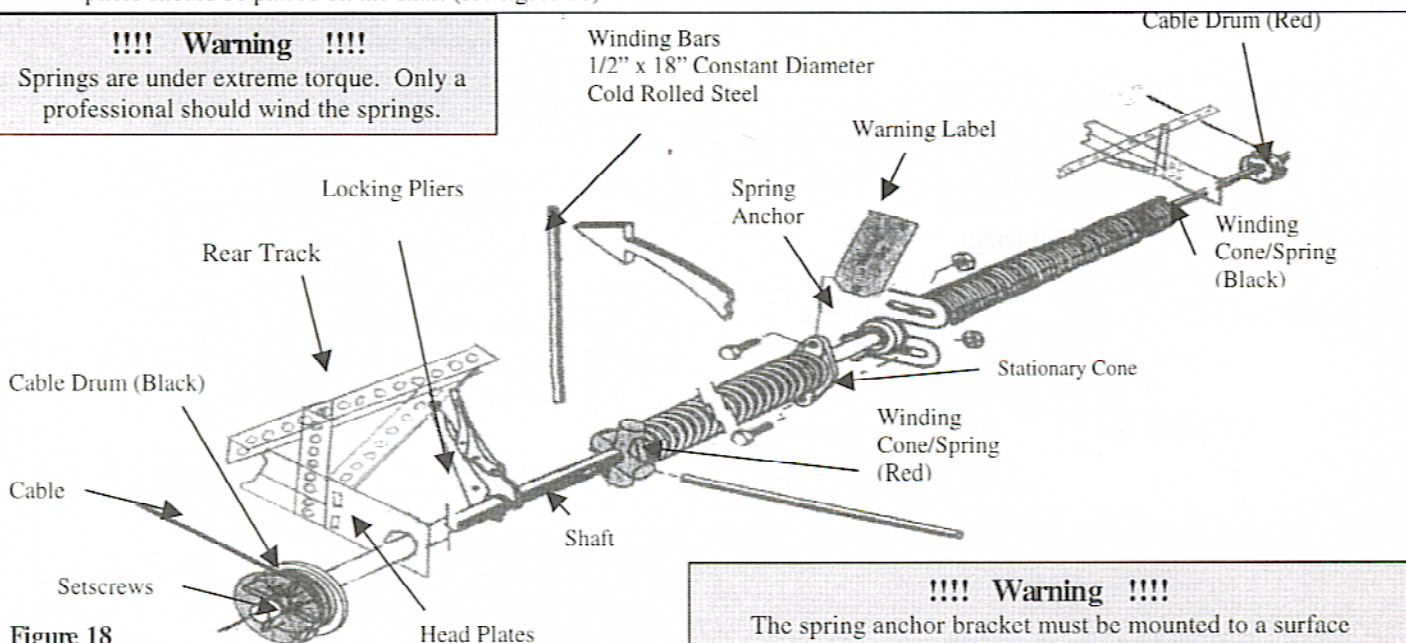

Figure 18
- Run the cable straight up around the pulley and back to the drum at the rear of the track. Place the cable lock into the notch of the drum (see figure 18 for details). Rotate the drum until the cable is tight and lock down the setscrews.
- To prevent the bar from turning during winding locking pliers should be placed on the shaft (see figure 18).